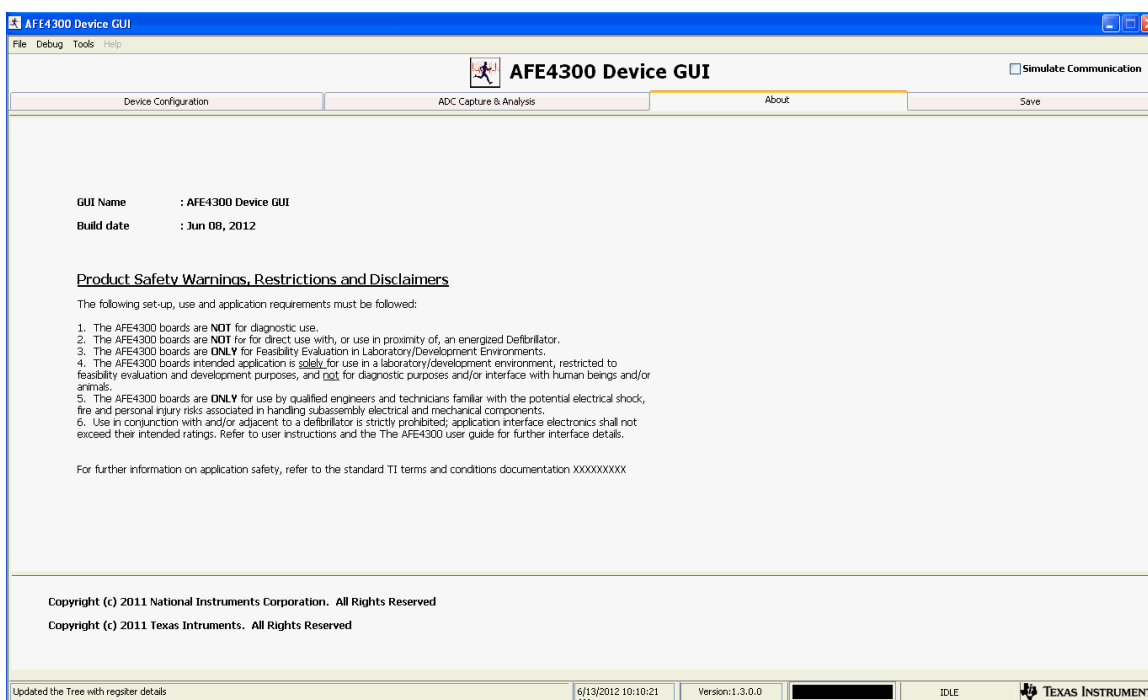

Figure 13. Product Safety Warnings, Restrictions, and Disclaimers
- **About:** Product safety warnings, restrictions, and disclaimers. (see Figure 13)